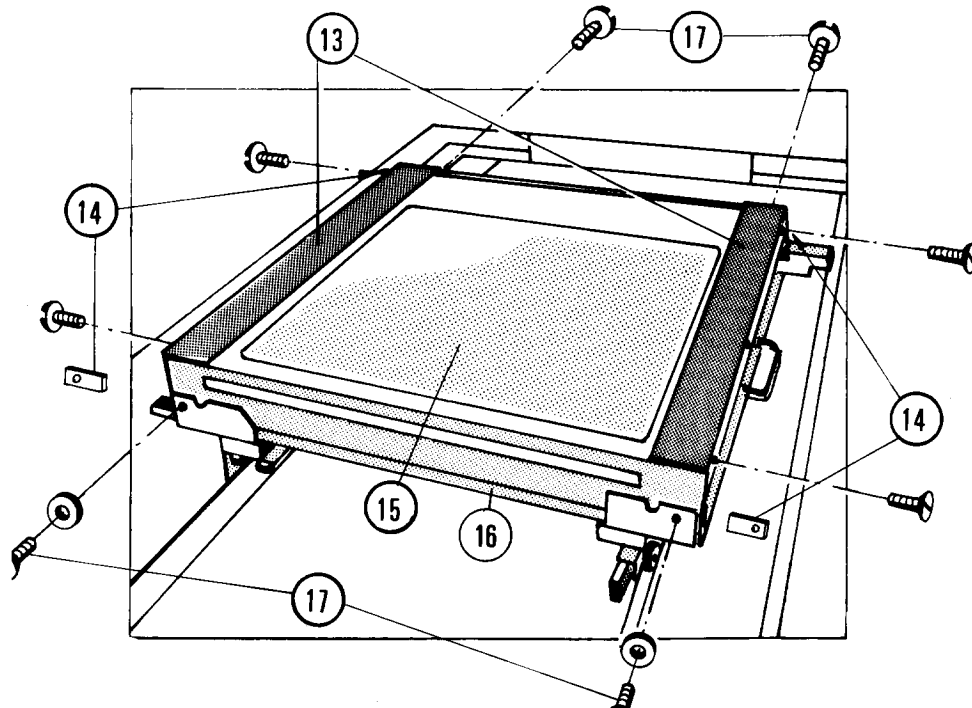

Fig. 4c
Picker Bucky Mount trim covers (Fig. 4c/item 13). Place the Bucky (item 15) on the carriage (item 16), insert spacers (item 14) between Bucky and mounting brackets and fasten with screws (item 17).